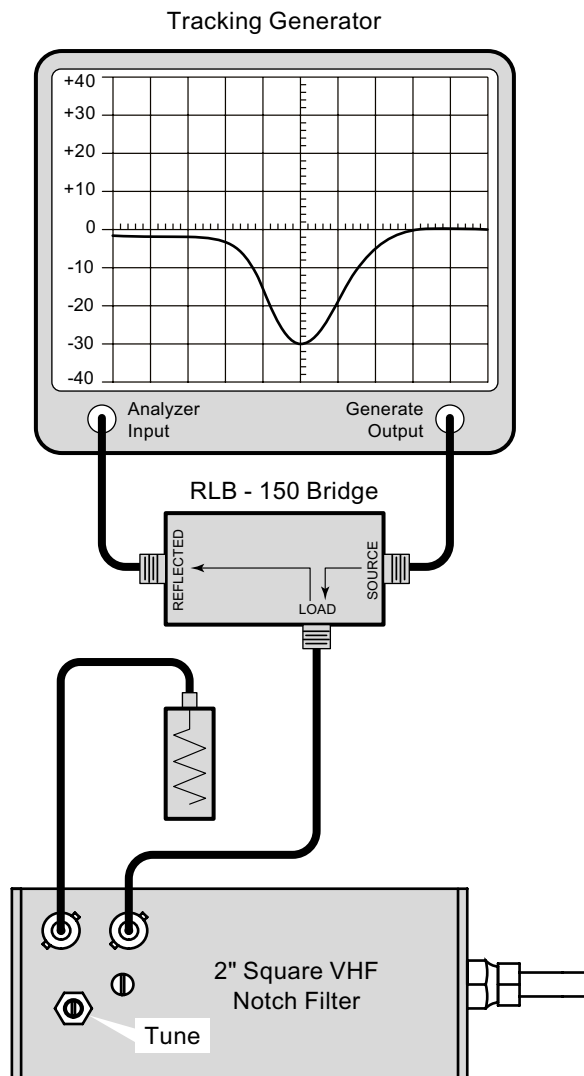

Figure 18: Tuning the Notch filter for maximum return loss.
- 1) Set the tracking generator to a center frequency of the filter to be tuned. Set the tracking generator for 0 dBm output and a 10 dB/div scale. Connect the equipment as shown in **Figure 18** but leave the load port of the bridge unconnected.
- 3) Connect the load port of the bridge to the filter as shown in figure 18.